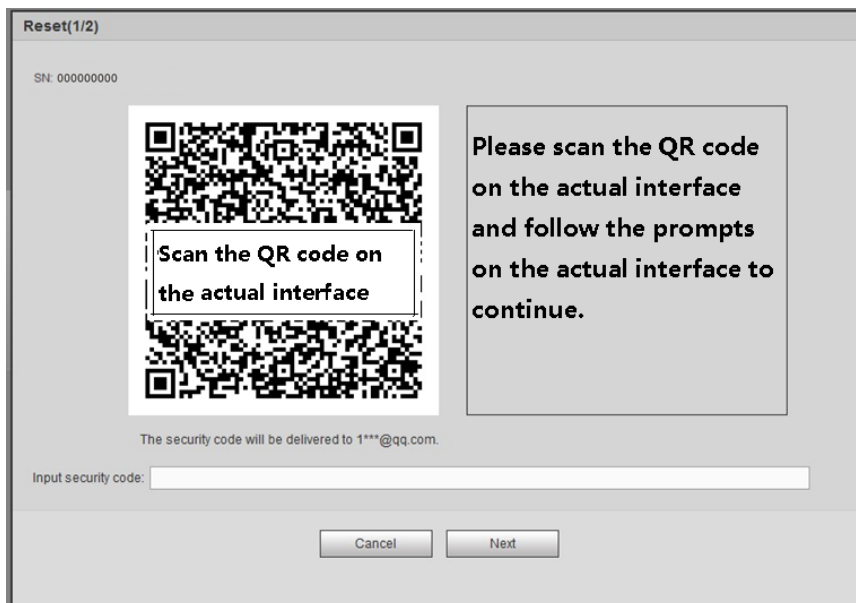

Figure 4-7
Step 2 Click Forgot password, enter the following interface. See Figure 4-7.